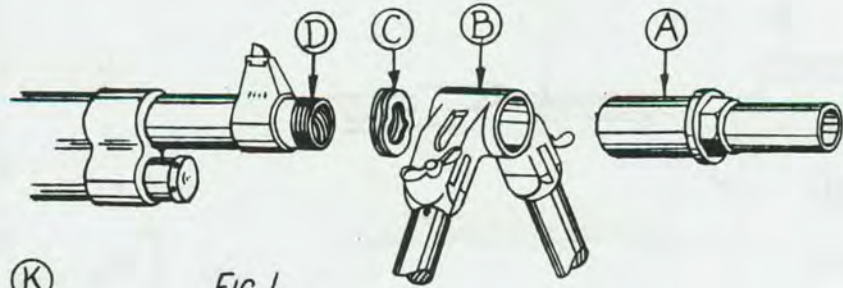

FIG. 1
- 4 UNSCREW FLASH HIDER (A), FIG. 1. REMOVE THE BIPOD (B) FROM THE FLASH HIDER (A) AND THE FRICTION WASHER (C) FROM BARREL (D).
6 EXTRACT SCREW (A) AND DRIVE REAR SIGHT (B) OUT OF RECEIVER (C) WITH A BRASS BAR, FIG. 1.